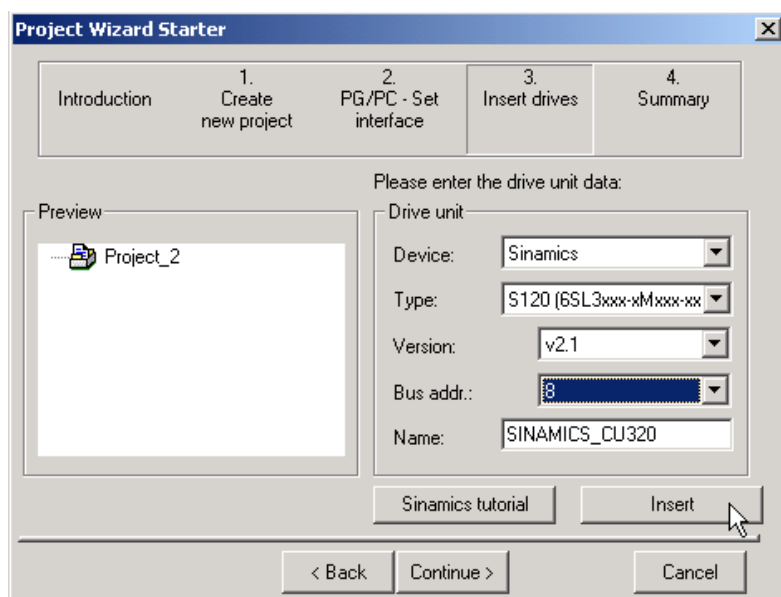

Fig. 3-8 Inserting the drive unit
11. Add the following components and data (as shown in Fig. 3-8):